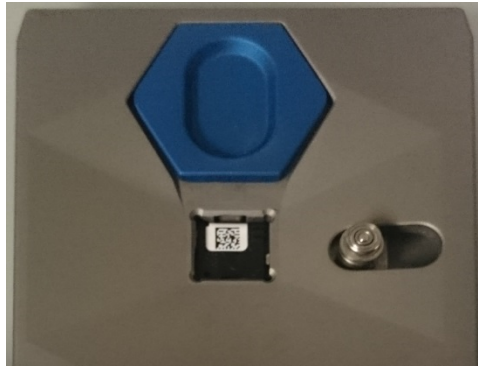

Figure 7-1: Correct nanoDot Orientation
- STEP 5:** Place the consistency nanoDot in the reader drawer with the barcode facing up. Ensure the nanoDot is sitting flat. Close the drawer completely. (Figure 7-1)
- STEP 6:** Click OK to start the Reading Reproducibility Test. Ten readings will be completed and the coefficient variation (CV) will be computed.
- Place the nanoDot in the reader drawer with the barcode facing up. Ensure the nanoDot is sitting flat. Close the drawer completely. (Figure 7-1)